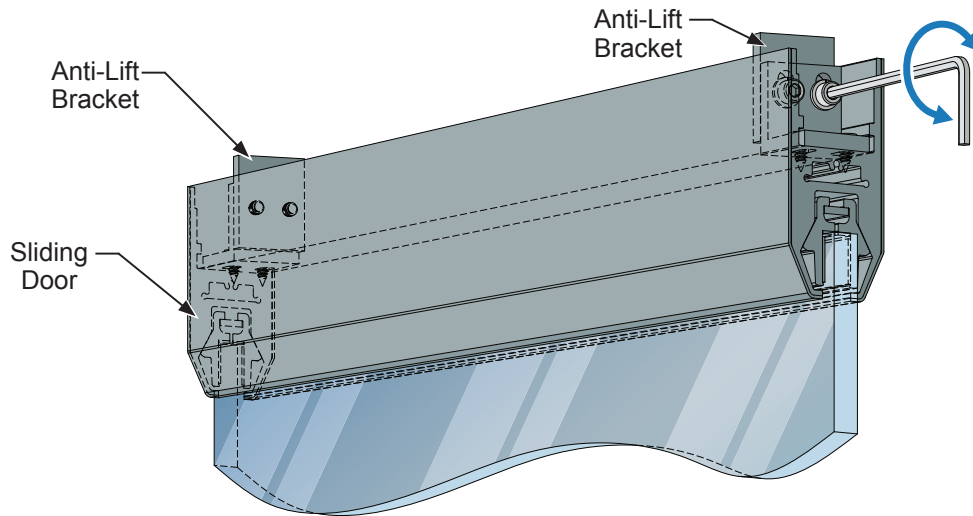

FIG. 17
9. Adjust the Door Stop/Anti-lift Bracket at each end of the Top Rail to be within 1/16" - 1/8" from the inside of the Top/Head Track. (FIG. 17)